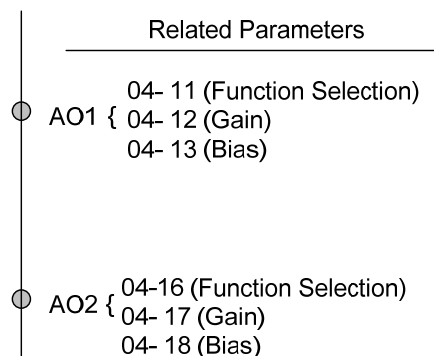

Figure 4.3.111 Analog output setting
- . Set as the figure 4.3.111, observe the motor speed waveform and tune the gain at the same time.